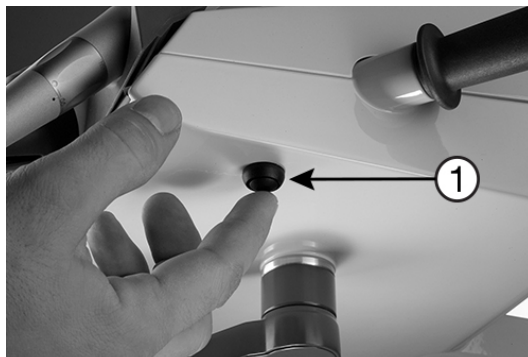

Figure 42 – Configuration button (1) under the instrument bridge
1. Activate the configuration button (1) while all instruments are resting – see Figure 42.
2. Activate the configuration button (1) until the display shows the instrument setting – see Figure 42